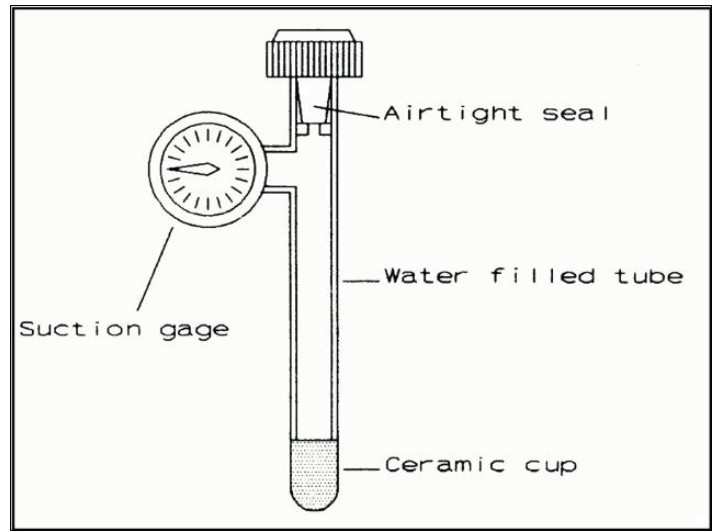

Figure 5. Tensiometer.
- *Direct measurement of soil moisture.* Using sensors for measuring the amount of available water in the soil is another way to determine when to irrigate. One such sensor is the tensiometer (see Figure 5). As the soil dries, water moves out of the tensiometer through the ceramic, causing a suction that is measured by the vacuum gauge. Tensiometers can be used to automatically schedule irrigation. (See reference 3 for a discussion on the use of tensiometers and installation instructions.)